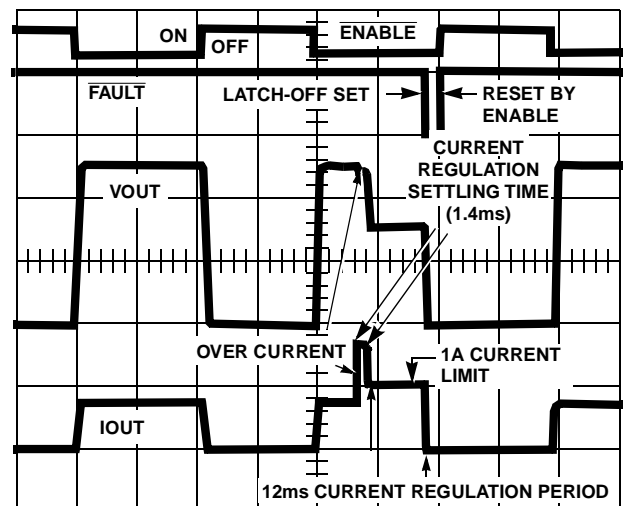

FIGURE 1. TYPICAL OPERATIONAL WAVEFORMS
The ISL6119 is a fully independent dual channel overcurrent (OC) fault protection IC for the +2.5V to +5.5V environment. Each ISL6119 incorporates in a single 8 lead SOIC package two 80mW N-channel MOSFET power switches for power control. Independent enabling inputs and fault reporting outputs compatible with 3V and 5V logic allows for external control and monitoring. This device features internal current monitoring, accurate current limiting, integrated power switches and current limited timed delay to latch-off for system protection. See Figure 1 for typical operational waveforms including both under and over current situations.